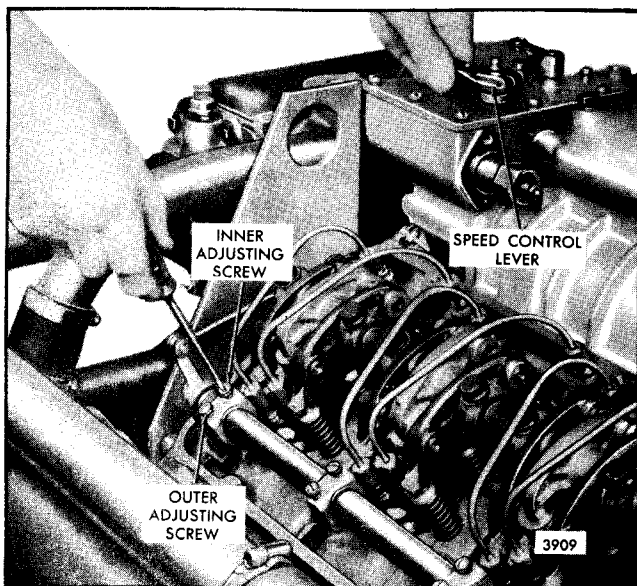

Fig. 13 - Positioning No. 1L Injector Rack Control Lever
6. Move the speed control lever to the full-fuel position and hold it in that position with light finger pressure. Turn the inner adjusting screw of the No. 1L injector rack control lever down (Fig. 13) until a slight movement of the control tube lever is observed or a step-up in effort to turn the screwdriver is noted. This will place the No. 1L injector in the *full-fuel* position. Turn down the outer adjusting screw until it bottoms lightly on the injector control tube. Then alternately tighten both the inner and outer adjusting screws. This should result in placing the governor linkage and the control tube assembly in the same positions they will attain while the engine is running at full load as previously described.
The internal starting aid screw is threaded into the governor gap adjusting screw (Fig. 13). This screw is adjusted to position the injector racks at less than full-fuel when the governor speed control lever is in the *idle* position. The reduced fuel makes starting easier and reduces the amount of smoke on start-up.